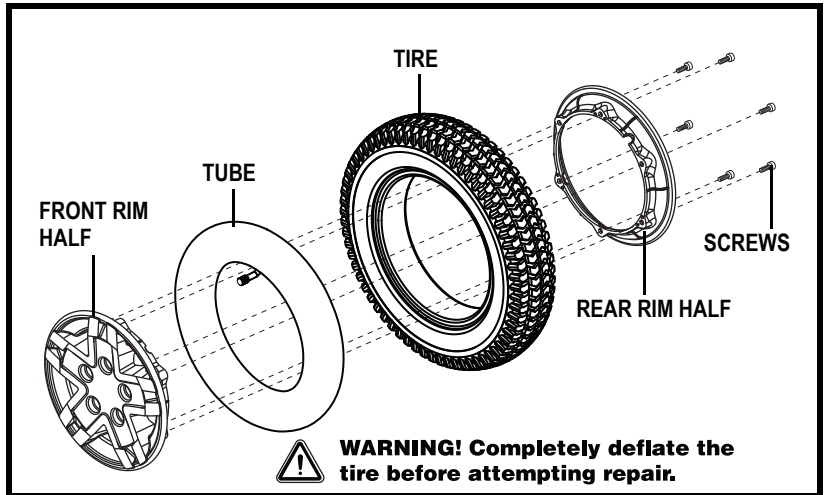

Figure 22. Q6 Edge Drive Wheel Disassembled
6. Remove the screws and separate the front and rear rim. See figure 22.
10. Reinstall the five (5) lug nuts onto the wheel hub and tighten.